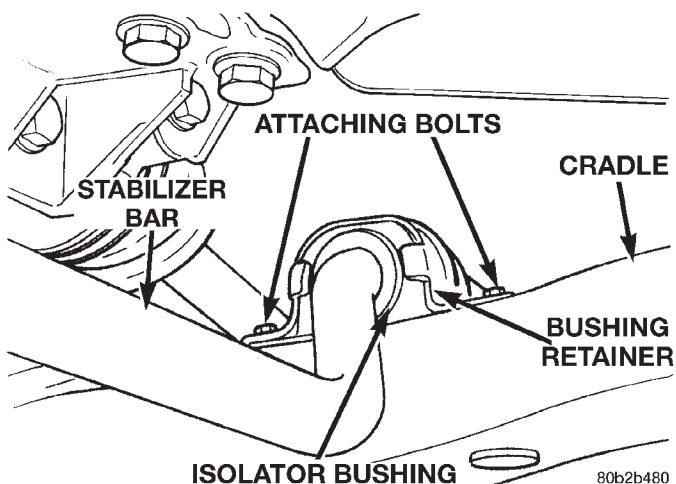

**Fig. 57 Stabilizer Bar Isolator Bushing Attachment To Cradle**
(12) Remove the bolts attaching each of the 2 stabilizer bushing retainers to the cradle assembly (Fig. 57).
(13) Remove both stabilizer bar isolator bushing retainers and bushings from stabilizer bar (Fig. 57).
(6) Install the isolator bushing retainers onto the stabilizer bar isolator bushings (Fig. 57).
(7) Align the stabilizer bar bushing retainers with the mounting holes in the cradle assembly. Install and tighten the 4 stabilizer bar bushing retainer to cradle assembly attaching bolts to 61 N·m (45 ft. lbs.) (Fig. 57).